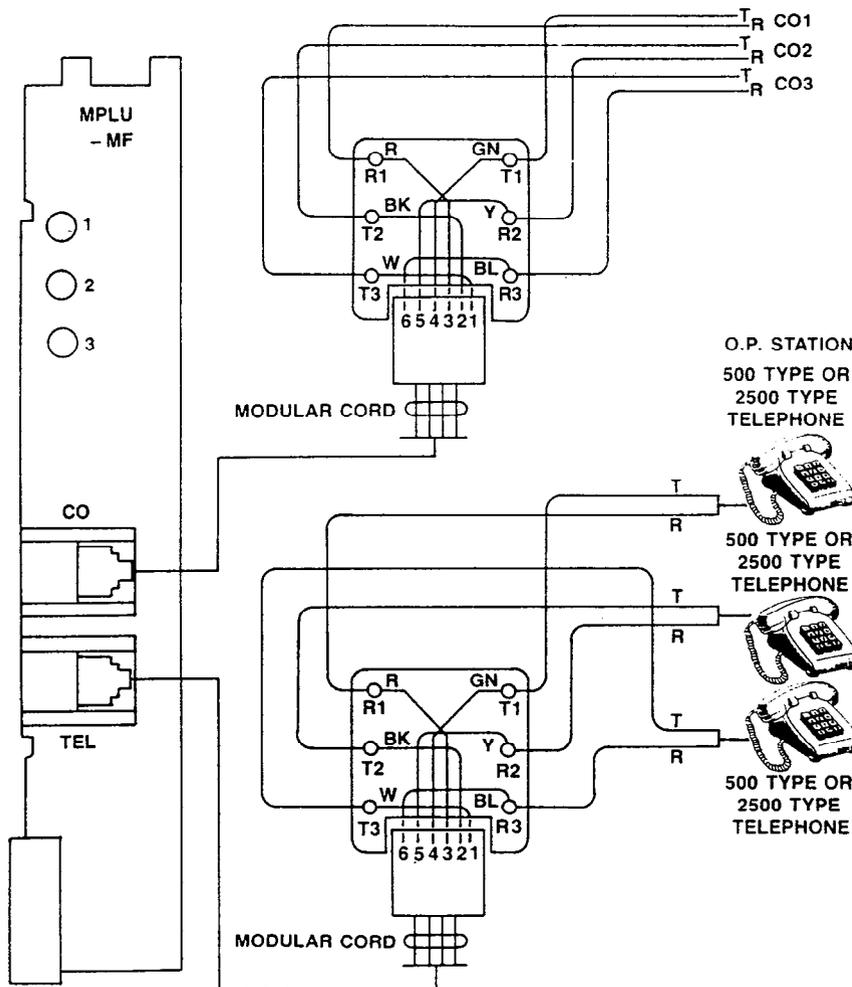

FIGURE 29—MPLU WIRING
08.71 OPL connections are made via 6-wire modular cords to the front of the MPLU. Two cords are required; one is connected to the CO jack and serves up to three CO/PBX line connections, the second connects to the TEL jack and serves the three OPL stations provided by that PCB (Figure 29). The MPLU occupies an MCOU position. ~~Maximum: one~~ MPLU per system.